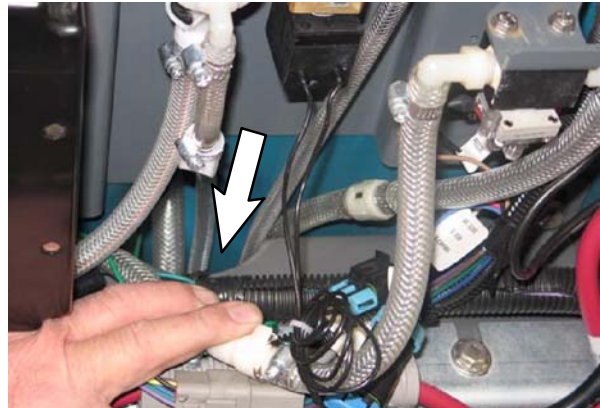

FIG. 11
11. Route all hoses connected to the ec-H2O assembly down through the recess in the solution tank, between the solution tank and recovery tank. (Fig. 11)